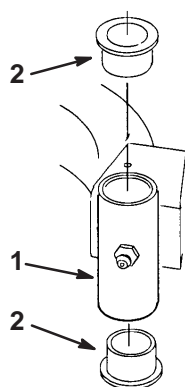

Figure 30
4. Insert a pin punch into the mounting tube and carefully drive out the bushings (Fig. 30). Clean the inside of the mounting tube.